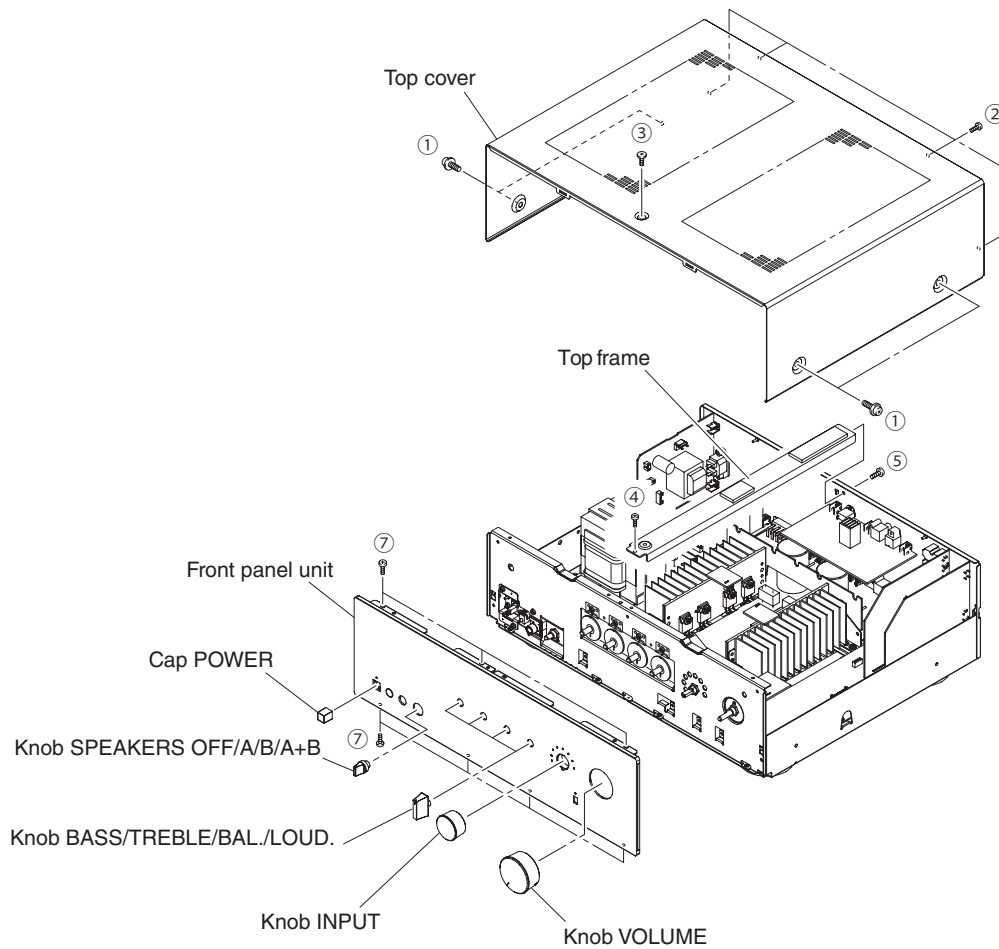

Fig. 1
- a. Remove 4 screws (①), 4 screws (②) and screw (③). (Fig. 1)
- b. Remove the top cover. (Fig. 1)
- a. Remove screw (④), screw (⑤) and then remove the top frame. (Fig. 1)
- b. Pull out the knobs and cap. (Fig. 1)
- c. Remove 7 screws (⑦). (Fig. 1)
- d. Remove the front panel unit. (Fig. 1)